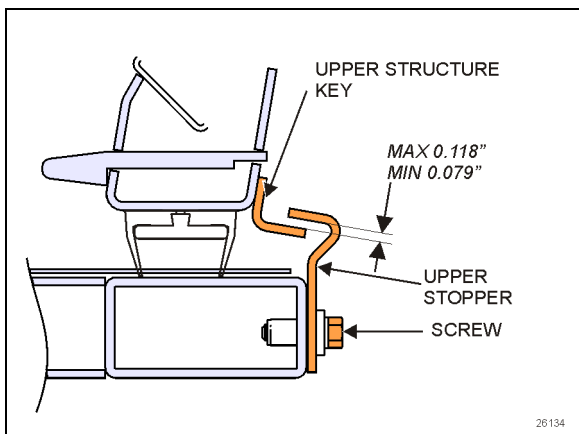

FIGURE 27: UPPER INNER STOPPERS ADJUSTMENT
1. Adjust the upper structure key and the inner stoppers according to Figure 27 with the seal deflated. When inflating, the seal presses the roof structure upward slightly and at that moment, the upper inner stopper comes into contact with the upper structure key.